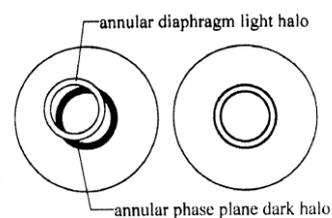

Fig. 7
- Adjust the annular diaphragm adjustment screw (4) to make annular diaphragm light halo and annular phase plane dark halo superimposed as shown in Figure 7 on the right circle.